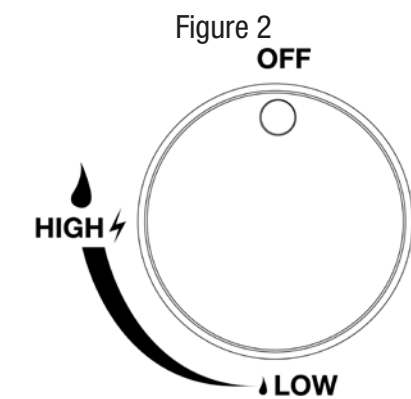

Figure 2
2. Make sure control knobs are "OFF". (Figure 2)
3. All control knobs must be in the "OFF" position. (Figure 2)